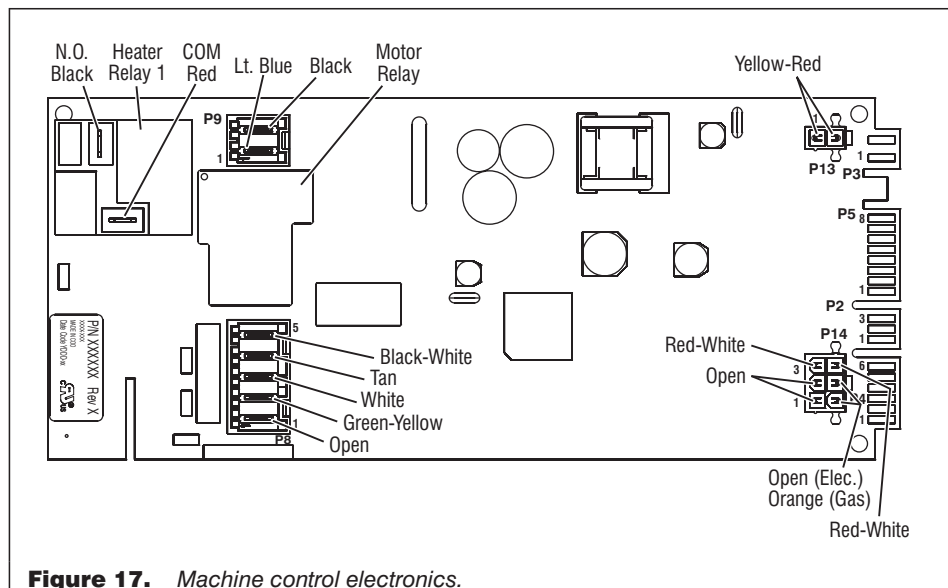

Figure 17. Machine control electronics.
1. Remove all the wire connections to the machine control electronics. See figure 17.